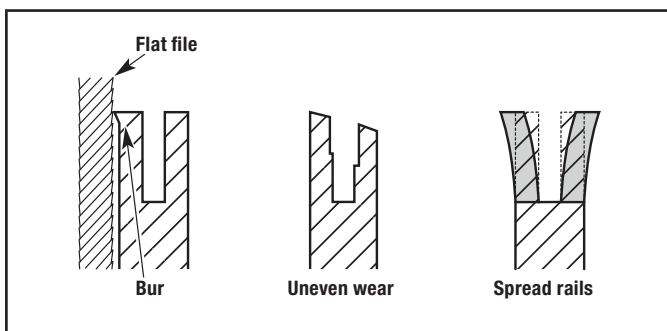

Figure 39
3. Frequently check the guide bar for damage (Fig. 39). Feathering and burring of the guide bar rails (the ridges on either side of the bar groove) is a normal process of guide bar wear. Such faults should be smoothed with a file as soon as they occur (Fig. 39). A guide bar with the following faults should be replaced: